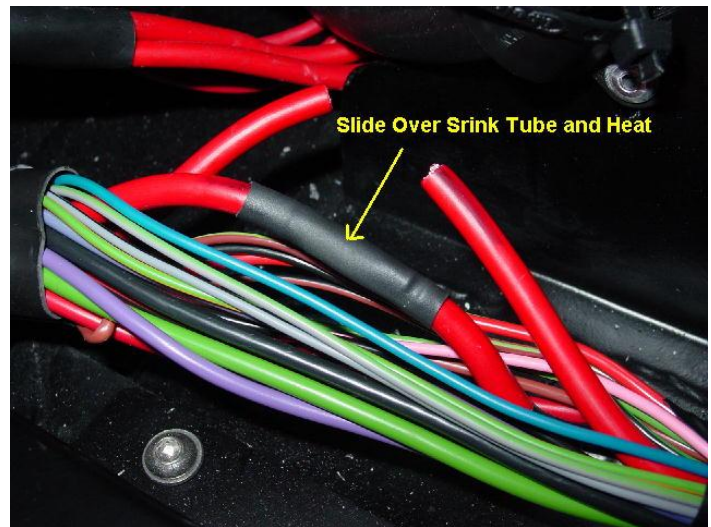

Fig. 11 Shrink Tube
10. Connect one marked wire to one unmarked wire. Crimp or solder the connection and apply shrink tube as shown in figure 11